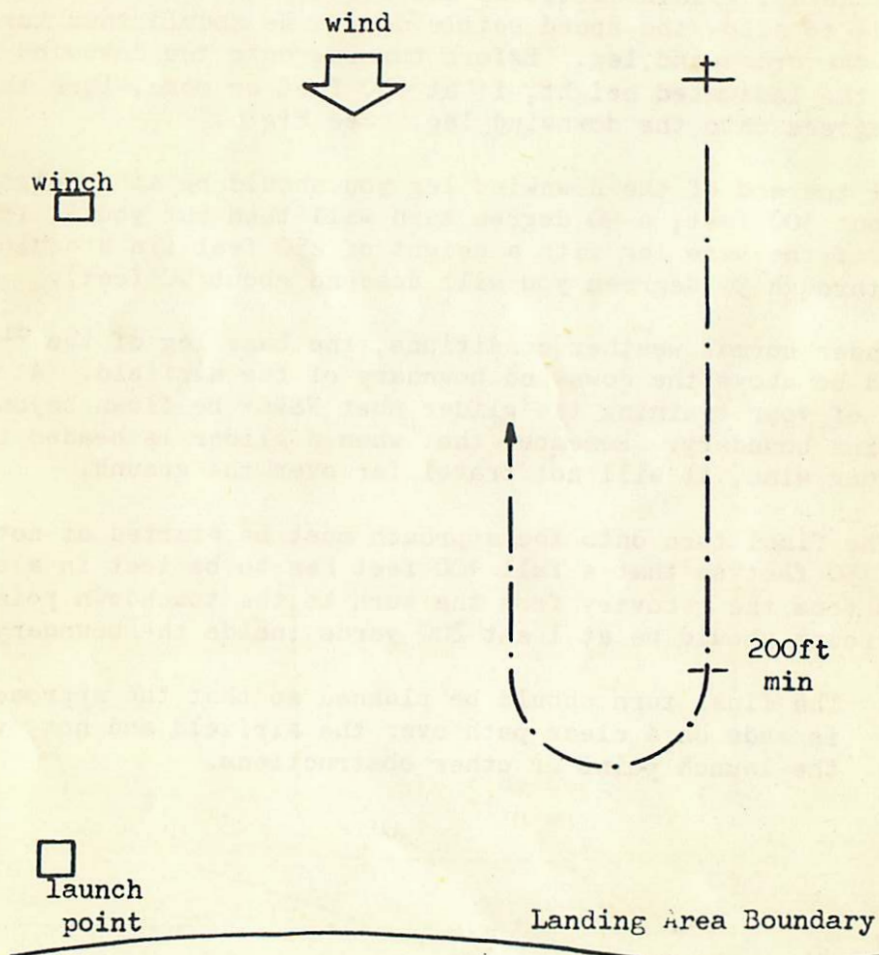

Fig 7
6. The minimum permitted height on the downward leg is 200 feet. This means that, in practice, if a pilot gets down to say 225 feet he must turn through 180 degrees on to the approach. The touch-down point will now be further up field but this is much safer than having to do a low turn in an attempt to land near the normal point. See Fig. 7.